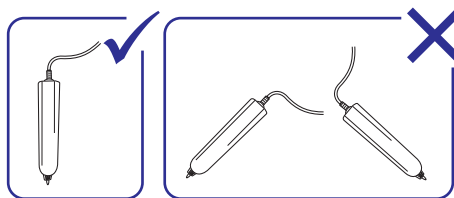

Fig.11
- Each calibration point must be pressed in the state of standing the sensor pen vertically. If the sensor pen is inclined when each calibration point is pressed, calibration may not be performed properly. (Fig.11)